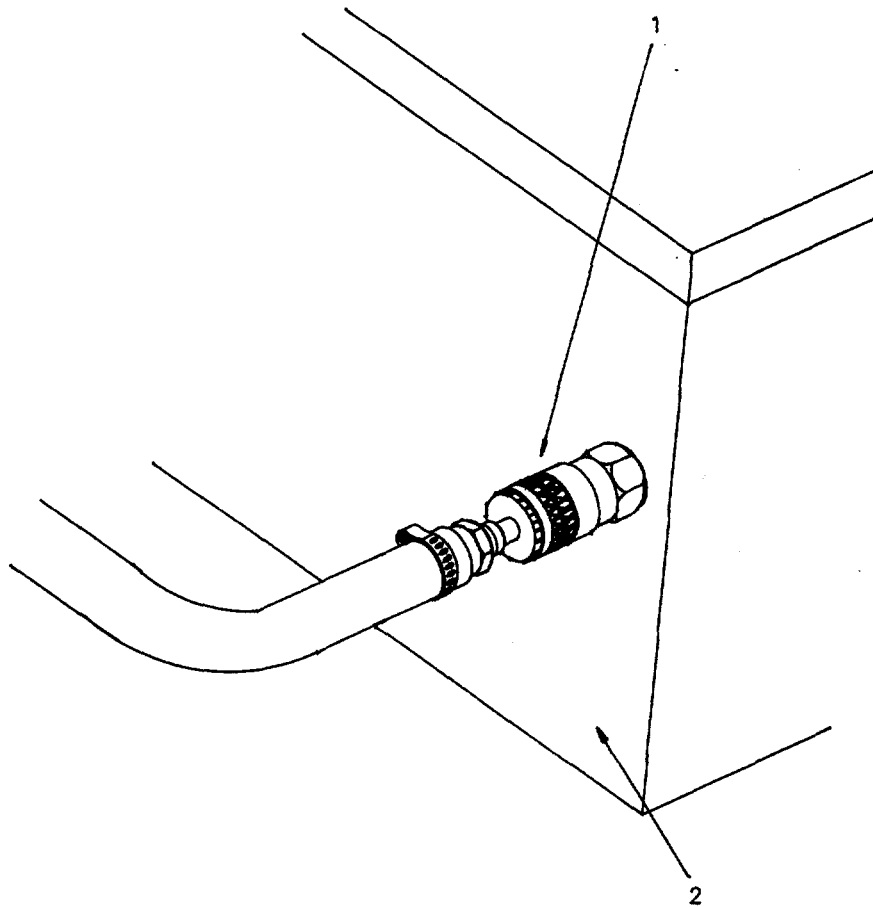

Figure 2-16. Compressor, Air Hose Hookup.
- a. Compressor is designed for hose adaptor (1, Figure 2-16) in front of trailer base (2).